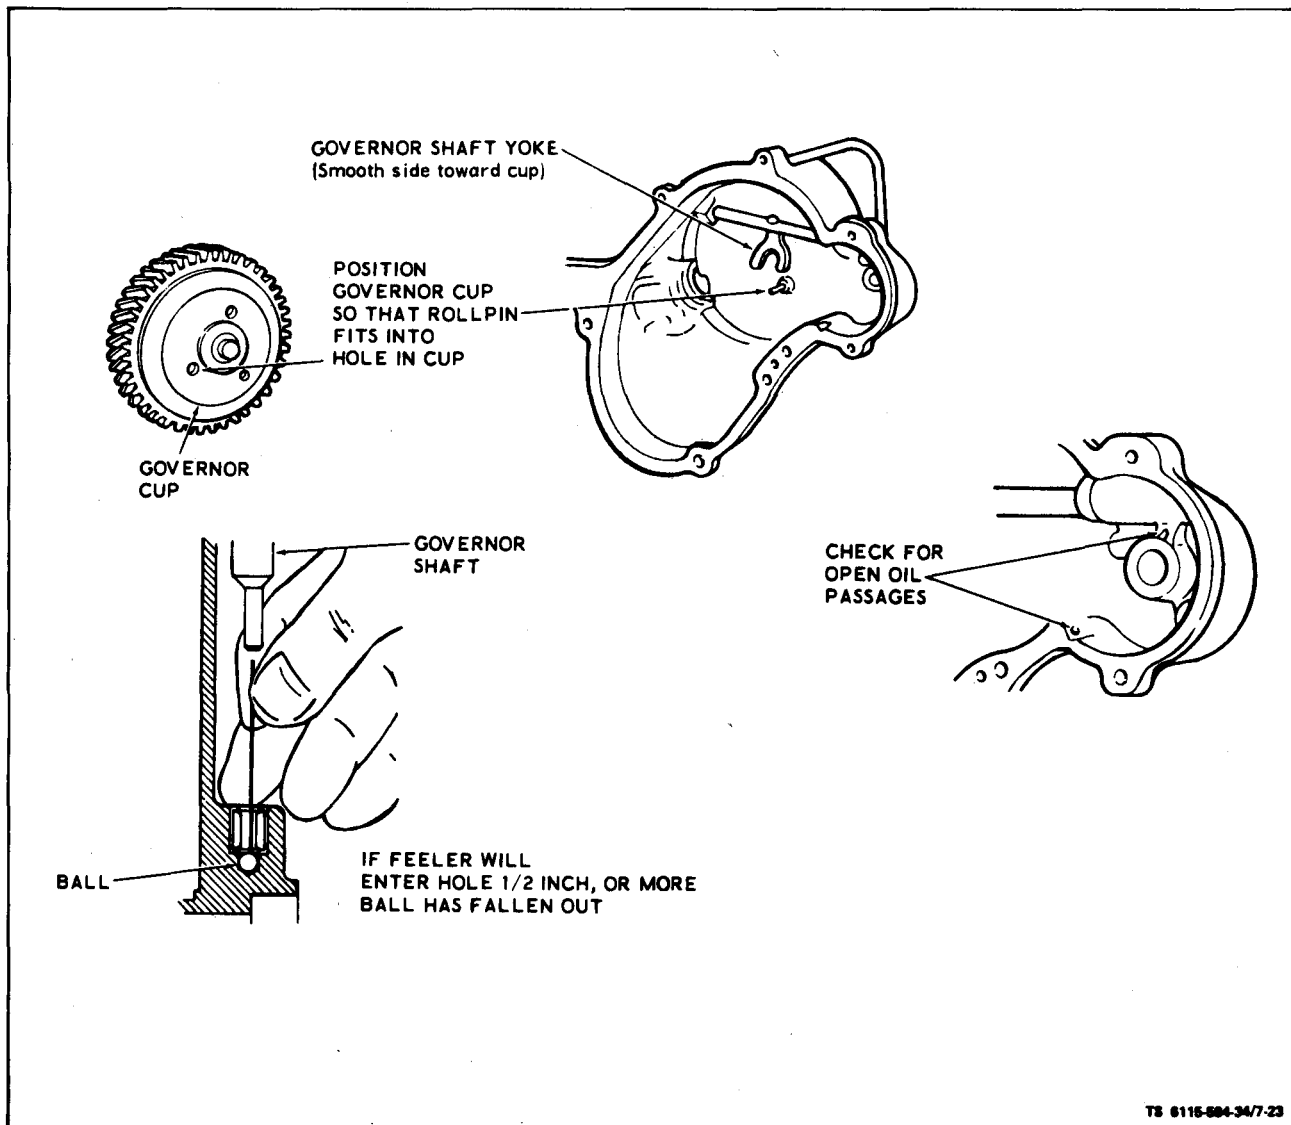

Figure 7-23. Gear Cover Inspection
(1) Work governor shaft to check for binding and see that governor-shaft-end-thrust ball is in place (see figure 7-23).
(3) Turn governor cup so the stop pin (figure 7-23) in the gear cover will fit into one of the holes in cup surface. Measure the distance from end of roll pin to mounting face of the cover. It should be $25/32$ inch. If it is not, replace pin. Pin should be positioned with open end facing crankshaft seal.